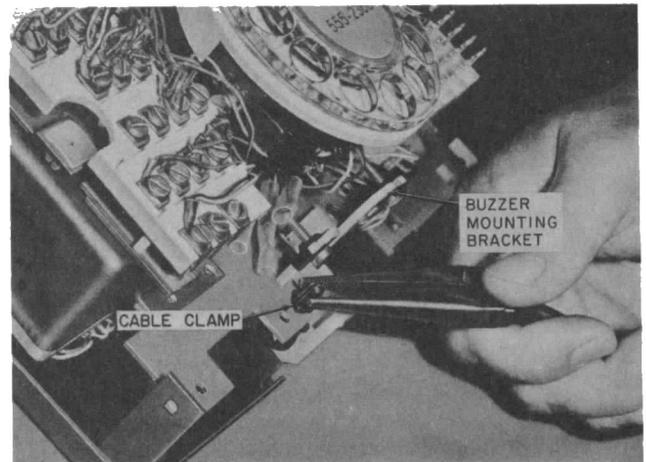

Fig. 7—Removing Cable Clamp
- (1) Remove sheath to surface of outlet box or bottom of hole in base pan, depending on method of wiring.
- (2) Remove cable clamps. (Pinch legs of clamp from front of chassis as shown in Fig. 7.)
- (3) Slip one of the clamps provided with set around conductors approximately 9 inches from end of sheath. Add second clamp 2 inches above first.
3.12 Buzzer: An insulated bracket and mounting screws are provided below the dial for mounting an auxiliary buzzer (Fig. 7). The KS-8109L2